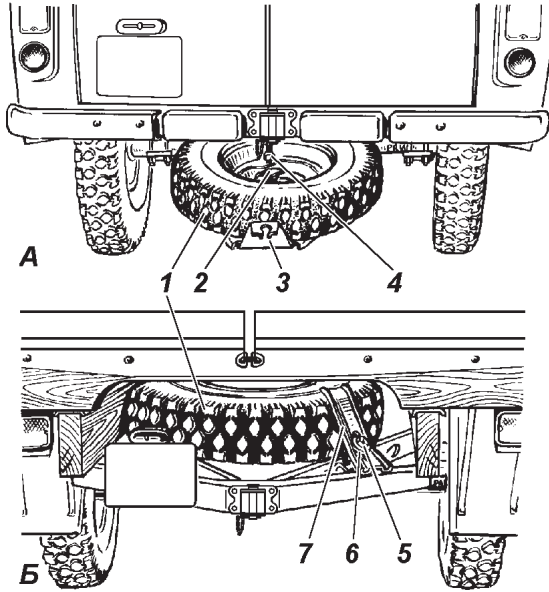

Fig. 9.24. Spare Wheel Attachment:
**The attachment of the spare wheel** is shown in Fig. 9.24. The wheel shall be securely fixed on the holder with sector 2 (Fig. 9.24, A) or with bracket 7 (Fig. 9.24, B).